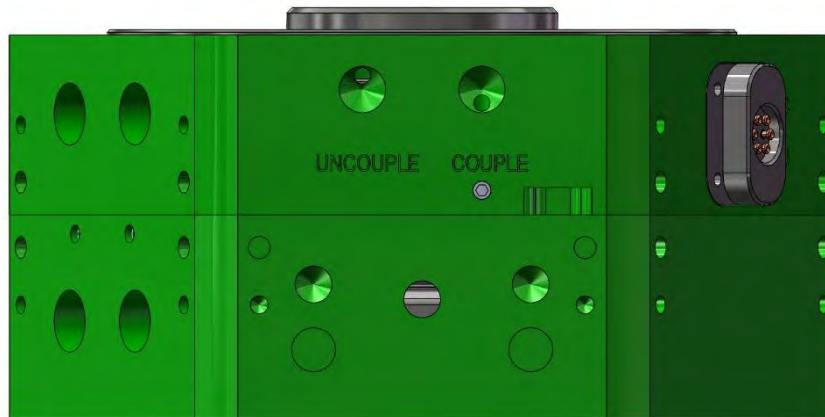

Figure 6.2-2. E80 Tool Changer – Docked Position
5. Stop the motion when the distance between the Robot Adaptor interface surface and Tool Adaptor interface surface are touching or as close as can reasonably be achieved. At this time, any electrical or fluid connections will be made through the use of available side modules. Note that when the interface surfaces of the Robot Adaptor and Tool Adaptor are in contact, the outer edge of the Adaptors should be touching (Figure 6.2-2).